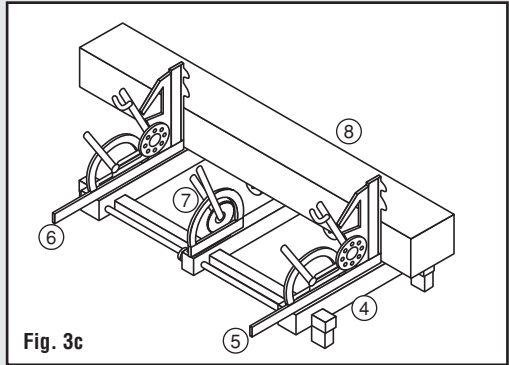

Fig. 3c
- Glue Block of Wood (8), Head Block (5), Hand Break (7), and Head Block (6) to Carriage (4) (Fig. 3c).